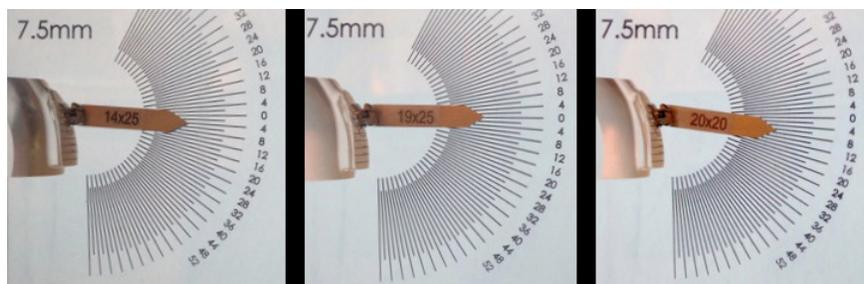

Figure 9: Even with extreme SAP positions, it is unlikely to develop excessive torsion within the slot, with common arch wire progressions.
- **Secure Force Application:** Even with very large SAP¹⁰ progressions, **application of excessive torsion through incremental increases in wire size is unlikely** using commonly employed AW sequences (Figure 9).